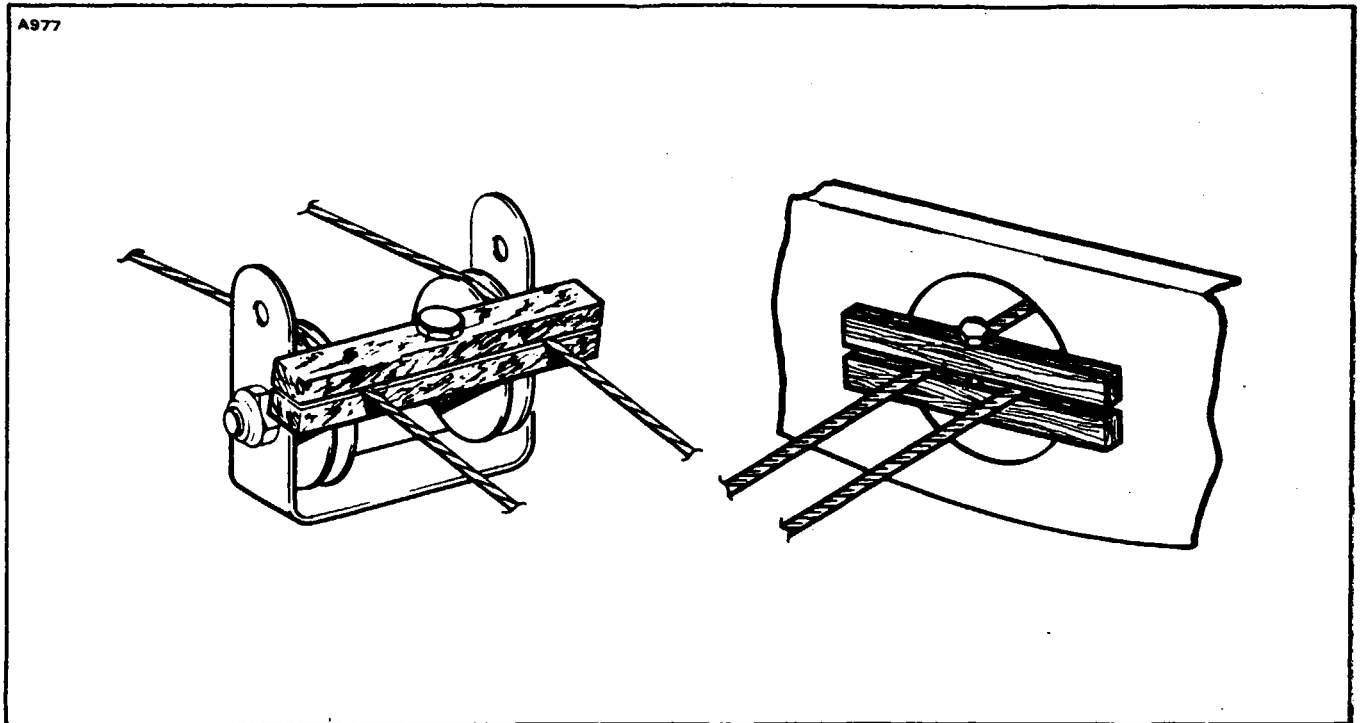

Figure 4-4. Methods of Securing Control Cables
d. Install cable blocks, as illustrated in Figure 4-4, on the stabilator trim control cable at the first set of pulleys forward of the cable turnbuckles to prevent the forward cable from unwrapping.